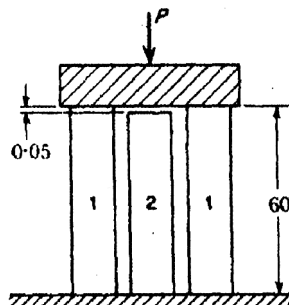

Fig.1 (a)
- 1 (a) A rigid steel plate is supported by three concrete posts each having a $10\text{cm} \times 10\text{cm}$ square cross-section as shown in Fig. 1(a). By accident, the middle post is 0.05cm shorter than the other two before load P is applied. Find the safe value of load P if the working stress for the concrete in compression is $200\text{kg}/\text{cm}^2$ and the modulus of elasticity $E_c = 12 \times 10^4 \text{ kg}/\text{cm}^2$.